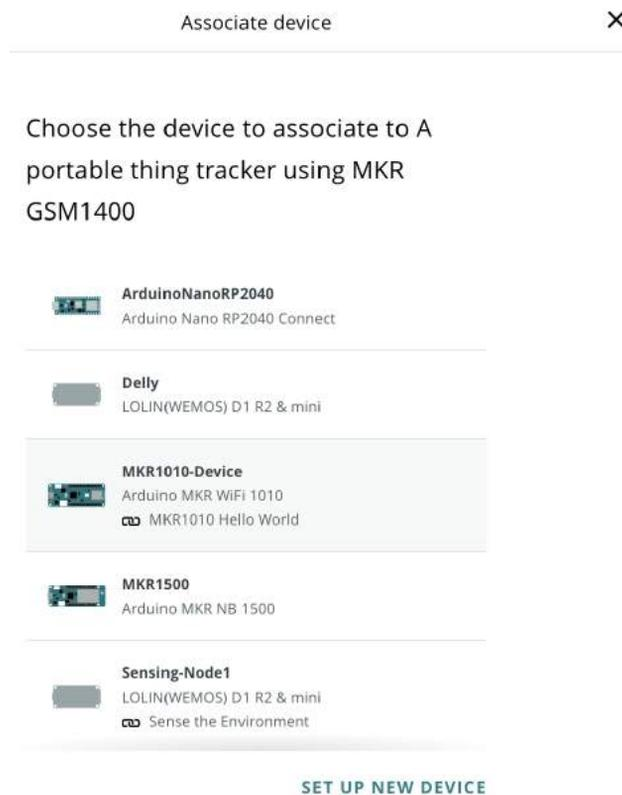

Figure 7.7 – Associate device – select device
1. Before adding the device, connect the development board to the computer and open the **Arduino Create Agent** application. *Figure 7.7* shows a popup where we have two options: either select the existing device for association or set up the new device if it is not available in the list: